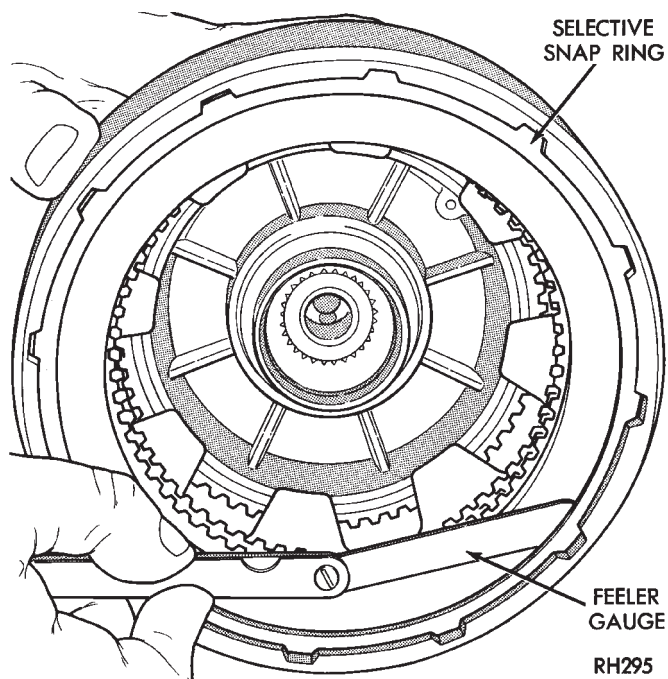

Fig. 67 Checking Rear Clutch Pack Clearance
(14) Measure clutch pack clearance (Fig. 67). Clearance should be 0.64 to 1.14 mm (0.025 to 0.045 in.). If clearance is incorrect, adjust clearance with select fit snap ring.